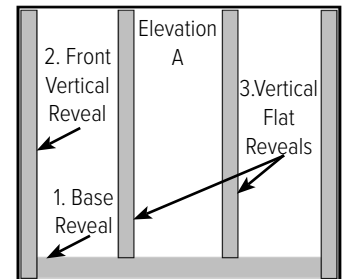

Figure 2.4.4
2.4.4 Be sure to level the reveal and apply light pressure to distribute the adhesive evenly as shown in Figure 2.4.4.